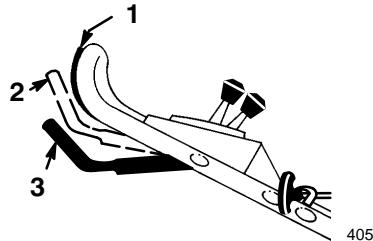

Figure 9
- Move control bar to the RUN/SHIFT position (Fig. 9).
- To engage the self-propel drive, squeeze the control bar against the handle in the RUN/DRIVE position (Fig. 9).
Note: Do not shift speeds while the control bar is squeezed against handle in the RUN/DRIVE position (Fig. 9); the transmission could be damaged. Move the control bar to the RUN/SHIFT position when changing ground speed.